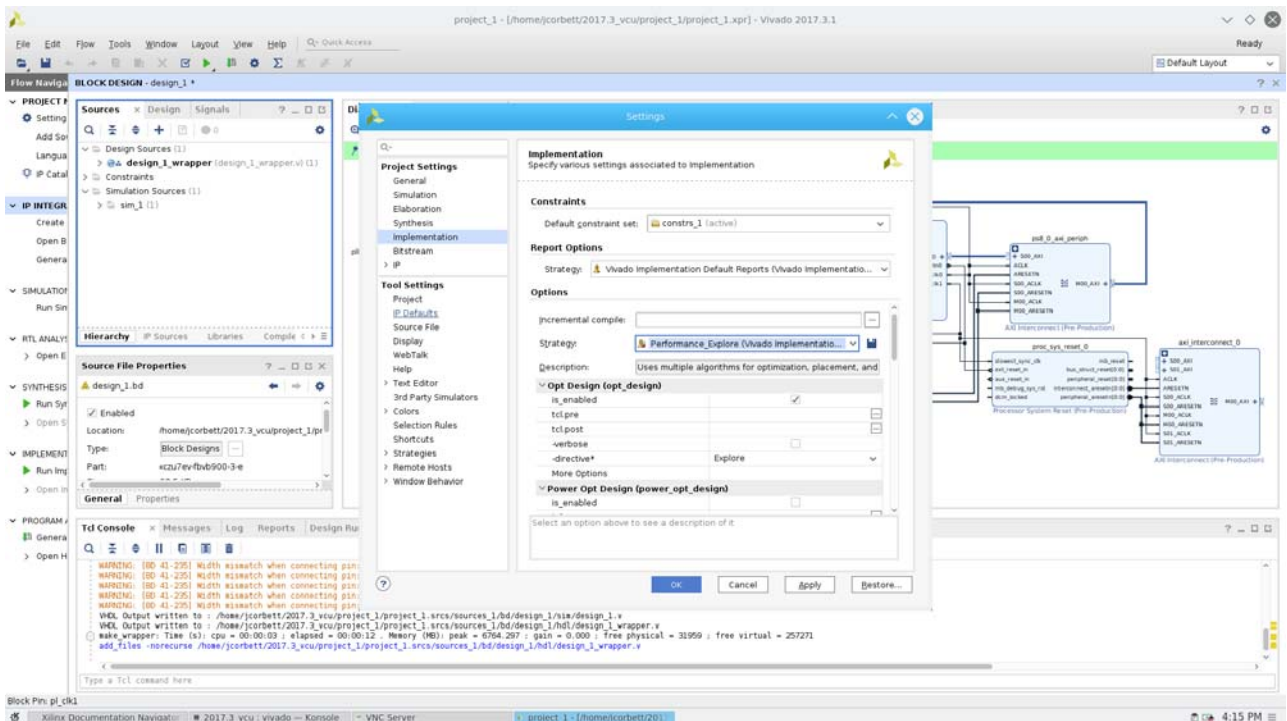

Figure 10-5: Project Settings Tab
- Click on the **Project Settings** window. Click on the Implementation, as shown in Figure 10-5.